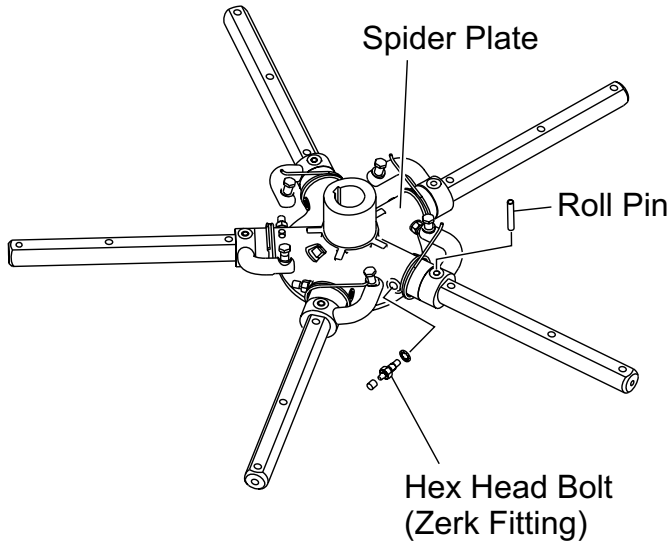

Figure 46. Remove Zerk Grease Fitting and Roll Pin
- Each trowel arm is held in place at the spider plate by a hex head bolt (Zerk grease fitting) and a roll pin. Remove both the hex head bolt and the roll pin from the spider plate (Figure 46).